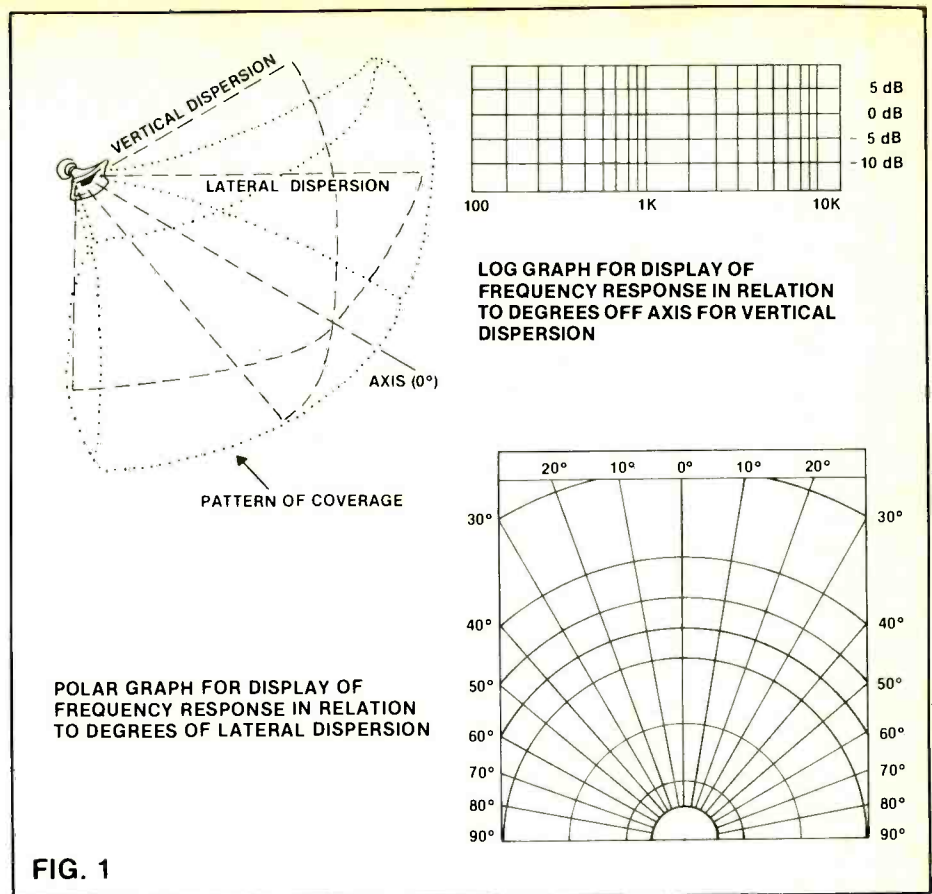

FIG. 1
(5) All speakers and horns exhibit patterns of coverage peculiar to their individual design. (See figure 1.) Many times these coverage patterns are useful, and a working knowledge of how each speaker and horn operates is necessary for good results. All speakers or horns will be more efficient when positioned in a certain direction. If the unit is pointed correctly, the sound can be aimed in a desired direction to optimize the coverage.